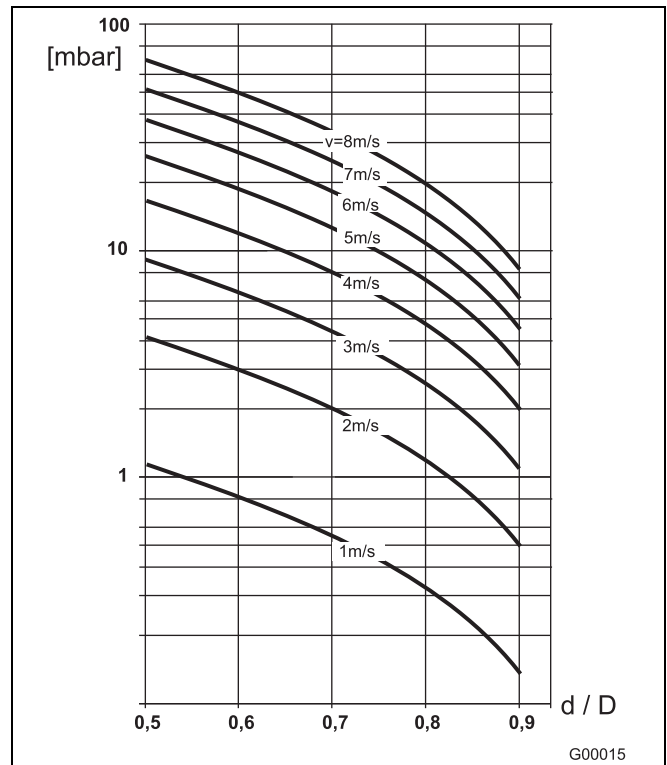

Fig. 20
2. Determine the flow velocity based on the flow range nomograph (Fig. 20).
3. Read the pressure drop on the Y-axis in Fig. 20.